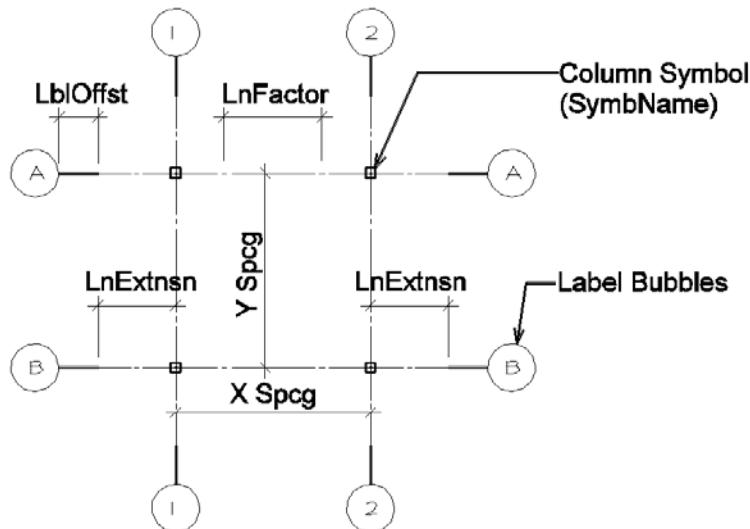

Figure 5-04: Label and grid line settings
The grid lines will be drawn with whatever linetype is currently active in DataCAD. Therefore it is important that if you want your grid lines to be drawn with a **Dashed**, **PropLine**, or **CentrLin** linetype, you make that the current linetype *before* having the macro draw the grid lines. The **LnFactor** option in the macro allows you to set the spacing between the repeat of the linetype (Figure 5-04).
This defines the extension of the column grid lines past the center of the outermost columns. The setting will be applied identically to the left, right, top and bottom grid lines (Figure 5-04).
This option draws a solid line of a specified length from the label bubbles to the grid lines (Figure 5-04). You might be tempted to set a value of zero (0) so you don't have any offset line, but the reason this option is there is because depending on the **LnFactor** of some linytypes, they may not be drawn with a clean connection to the label bubbles. Having a solid **LbIOfst** line ensures that there is always a good connection.
This defines the starting number for the horizontal labels, and the starting letter for the vertical labels. The macro only creates numbers horizontally and letters vertically. You do not have the option of creating numbers vertically and letters horizontally (Figure 5-04).